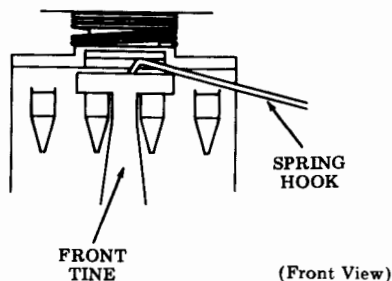

Fig. 8—Front Tine Disengagement
- (3) Continue applying upward pressure to the RETURN key and disengage the front tine from housing using a spring hook. Remove key with housing from channel (Fig. 8).